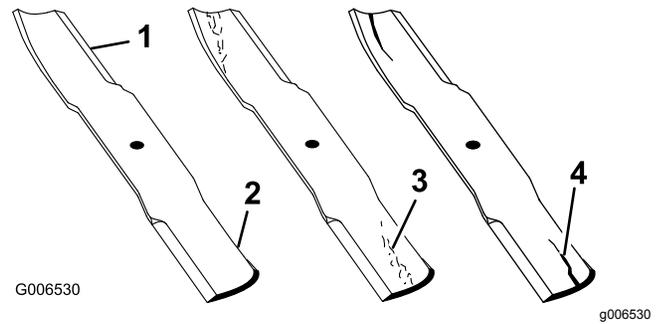

Figure 108
1. Inspect the cutting edges (Figure 108).
4. If you notice any cracks, wear, or a slot forming in this area, immediately install a new blade (Figure 108).